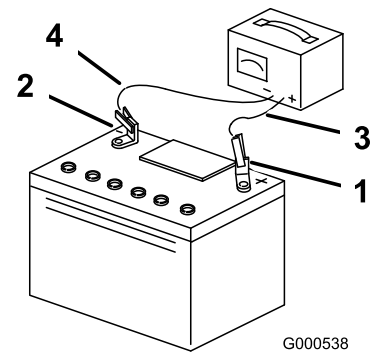

Figure 52
5. When the battery is fully charged, unplug the charger from the electrical outlet, and disconnect the charger leads from the battery posts (Figure 52).